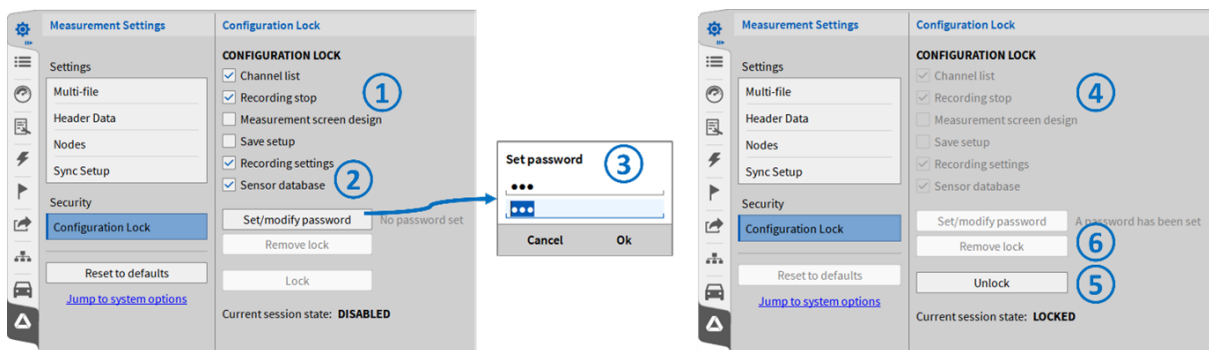

Fig. 5.47: Activation setup lock
- Select the settings that shall be locked (see ① in Fig. 5.47).
- Press *Set/modify password* (see ② in Fig. 5.47).
- Enter the password and confirm it (see ③ in Fig. 5.47).
- The selected settings will be locked afterwards (see ④ in Fig. 5.47).
- To unlock the settings again, press the *Unlock* button and enter the password (see ⑤ in Fig. 5.47).
- To remove the lock from the setup again, press *Remove lock* in the unlocked state (see ⑥ in Fig. 5.47).